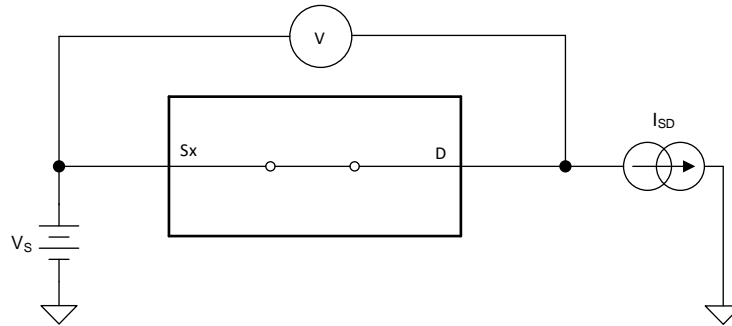

图 7. On-Resistance Measurement Setup
The on-resistance of a device is the ohmic resistance between the source (Sx) and drain (D) pins of the device. The on-resistance varies with input voltage and supply voltage. The symbol  $R_{ON}$  is used to denote on-resistance. The measurement setup used to measure  $R_{ON}$  is shown in 图 7. Voltage (V) and current ( $I_{SD}$ ) are measured using this setup, and  $R_{ON}$  is computed with  $R_{ON} = V / I_{SD}$ :